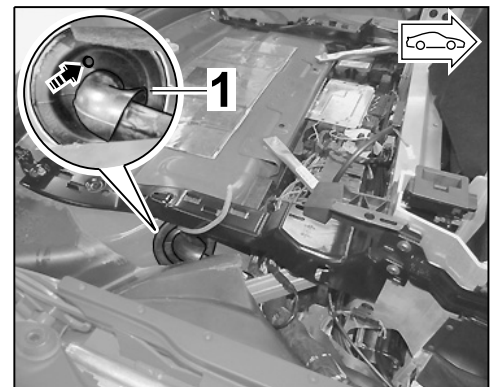

Figure 23
- 3.11 Seal grommet ⇒ *Figure 23 -1-* with sealing cord (000.043.172.00).